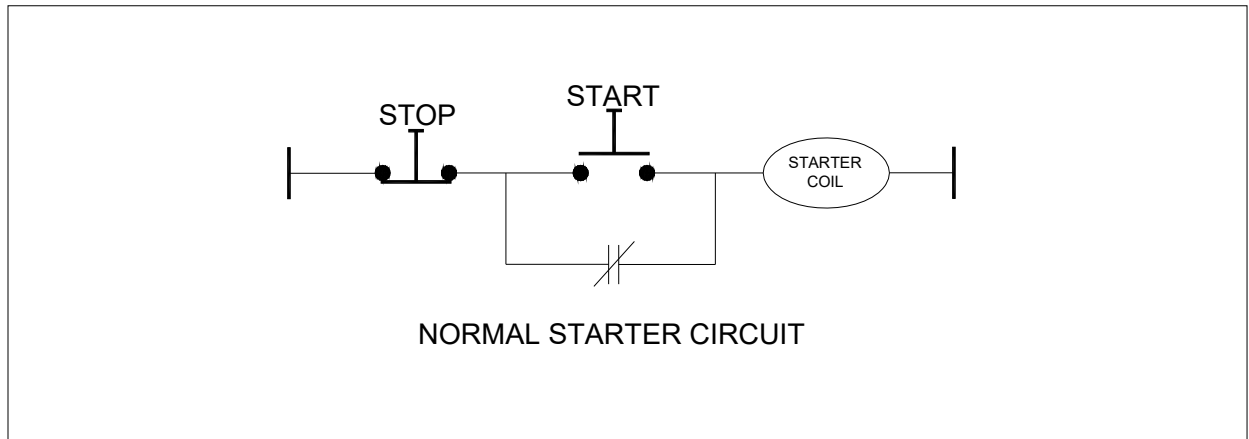

Figure 12
**EQUIPMENT SHUTDOWN (Fig. 12 & 13)**